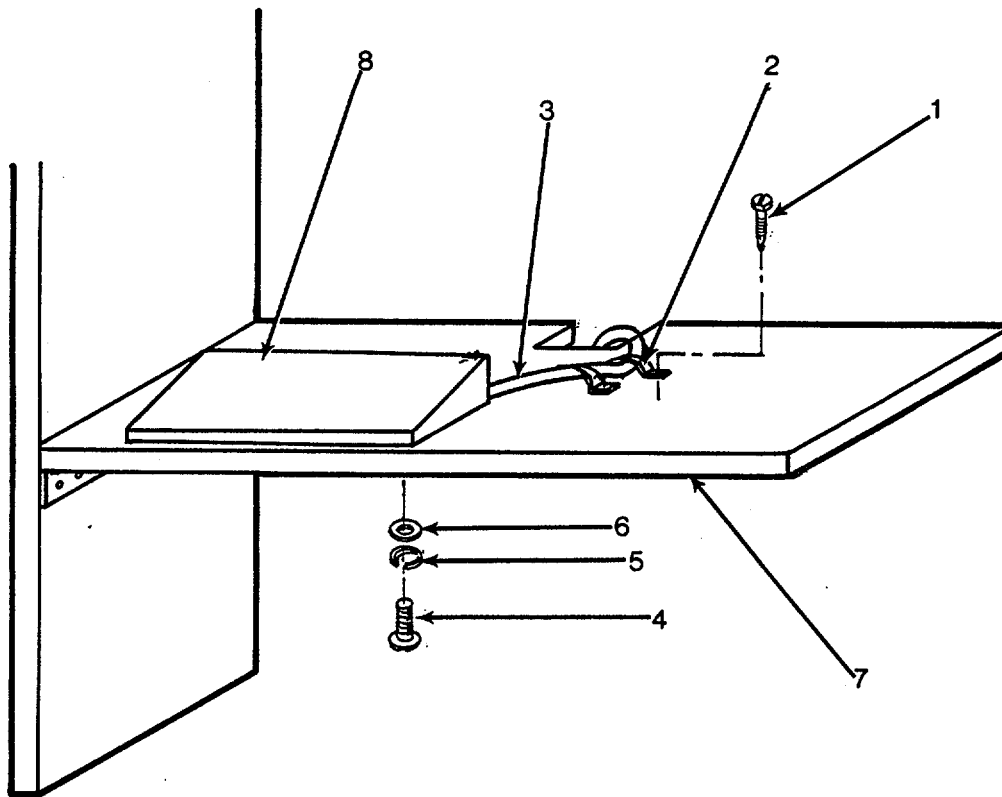

Figure 4-33. Table Top Keyboard Terminal Mounting
c. Replace Table Top Keyboard Terminal. (See Figure 4-33.)
(1) Remove screws (1) and cable clamps (2) from keyboard terminal cable (3) and disconnect cable from rear of controller.
(2) Remove screws (4), lockwashers (5) and flat washers (6) from bottom of table top (7) and remove keyboard terminal (8).
(3) Align replacement keyboard terminal with holes in table top (7) and install flat washers (6), lockwashers (5) and screws (4).
(4) Connect keyboard terminal cable (3) and install cable clamps (2) with screws (1).